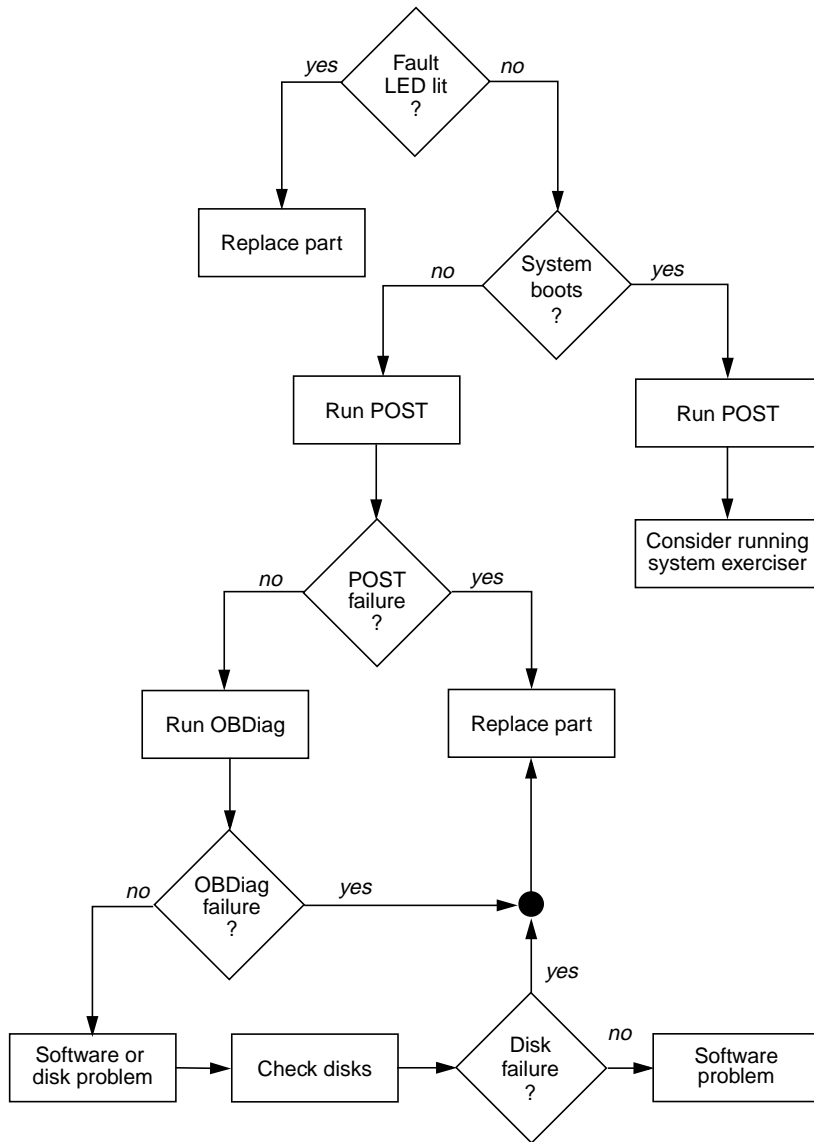

FIGURE 3-1 Choosing a Tool to Isolate Hardware Faults
- If the system *can* boot, you should use a more comprehensive tool. The typical fault isolation process is illustrated in FIGURE 3-1).